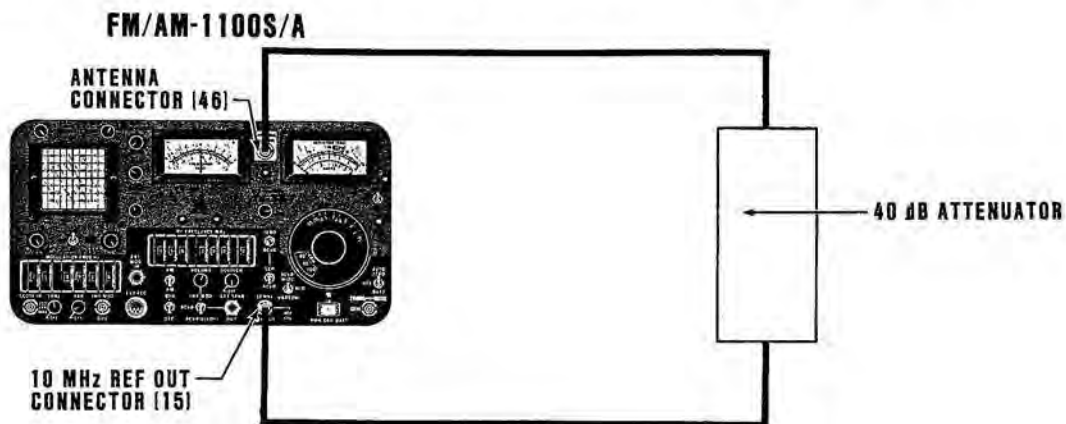

Figure 3-44 40 dB Attenuator Connection Between 10 MHz REF OUT and ANTENNA Connectors
11. Rotate BFO-RF LEVEL Control (7) to "-80 dBm", set BFO/OFF Switch (20) to "BFO" and verify:
- a. (On FM/AM-1100S models) spectrum of Signal Generator and FM/AM-1100S BFO are equal in amplitude (within ± 4 dB) as viewed on FM/AM-1100S CRT Display (36).
- b. (On FM/AM-1100A models) FM/AM-1100A CRT Display (36) displays a 1 kHz modulation envelope at 100%.
12. Set HI LVL/ μ V X 100/NORM Switch (3) to "NORM", adjust output level of Signal Generator to -80 dBm and verify:
13. Disconnect Signal Generator from FM/AM-1100S/A ANTENNA Connector (46); connect coax cable and 40 dB Attenuator between FM/AM-1100S/A 10 MHz REF OUT Connector (15) and ANTENNA Connector (46) as shown in Figure 3-44.